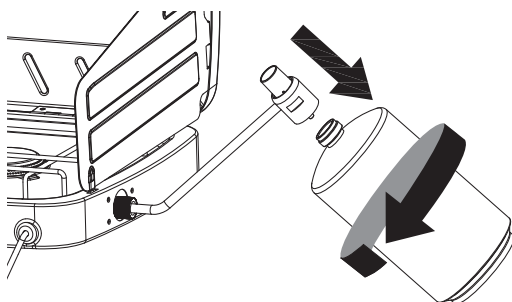
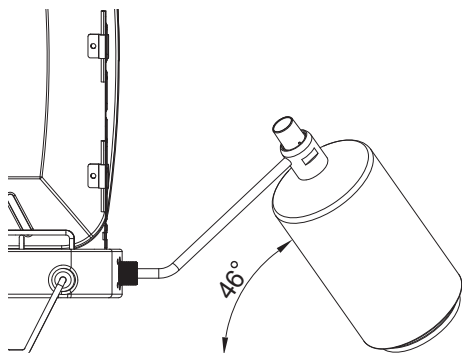

Figure 4 (Angle of Tank Location)
Figure 5 (Angle of Tank Location)
3. **LP gas tank must be kept at a 46° angle or 68° angle and make sure the bottom of the cylinder is on the ground (Figure 4 & Figure 5).**